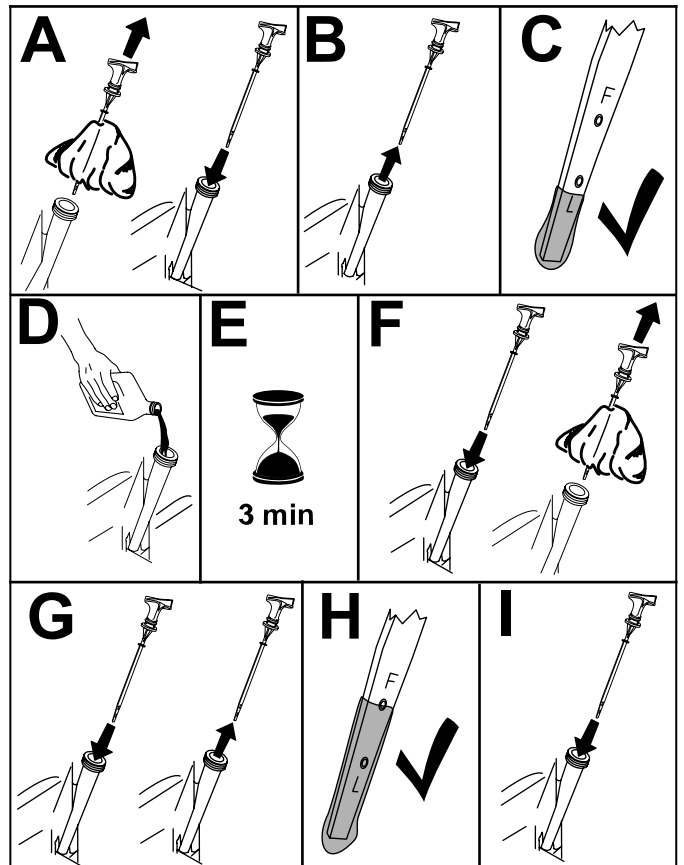

Figure 20
4. Check the engine-oil level as shown in Figure 20.